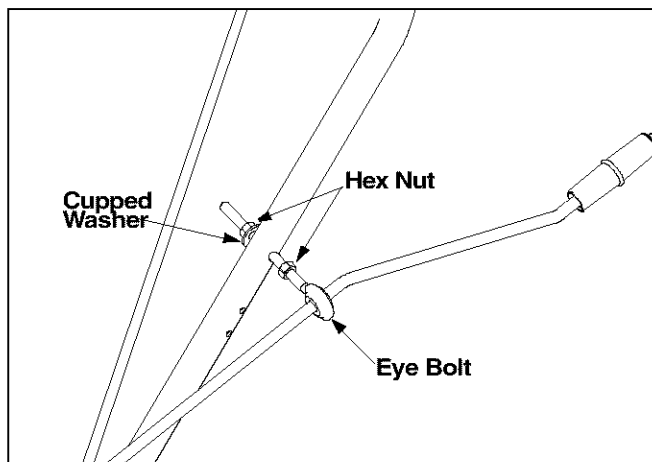

Figure 6
- Insert eye bolt through the hole provided in the left handle. See Figure 6.